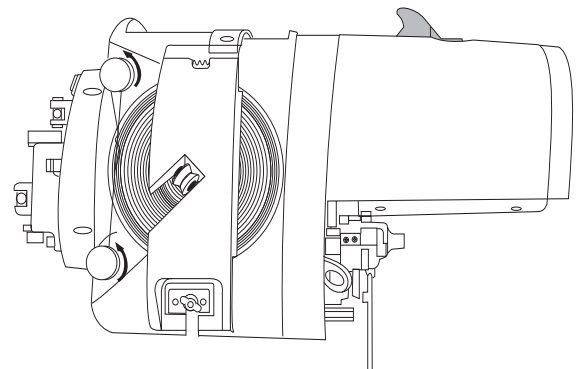

Figure 8 - Lasher
3. When drip loops are used, they must be the “smooth-curve” type -- under no circumstances should any other shapes be used. Figure 8 illustrates this shape and the minimum recommended dimensions of a drip loop.
1. A lasher is used to secure fiber optic cable to a strand by wrapping a small continuous lashing wire around both the strand and the cable in a spiral manner (Figure 8). Lashing “wire” may be made of steel or contain dielectric materials such as aramid yarn. Fiber optic cables must be installed without loose lashing, twisting, or weaving along the strand. Rippling, kinking, or any kind of deformation of the cable can require replacement of the cable by the responsible contractor.